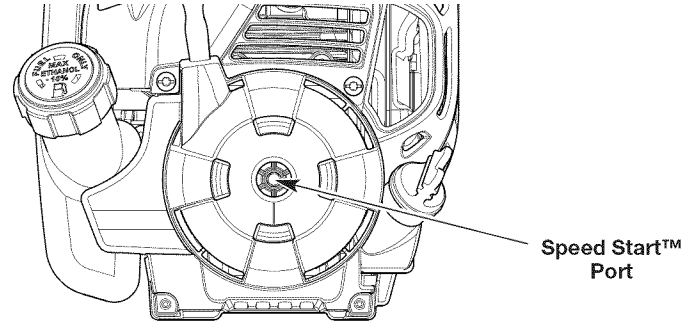

Fig. 11
5. Insert the Speed Start™ accessory into the Speed Start™ port (Fig. 11). Refer to the *Operation* section of the Speed Start™ accessory operator's manual.